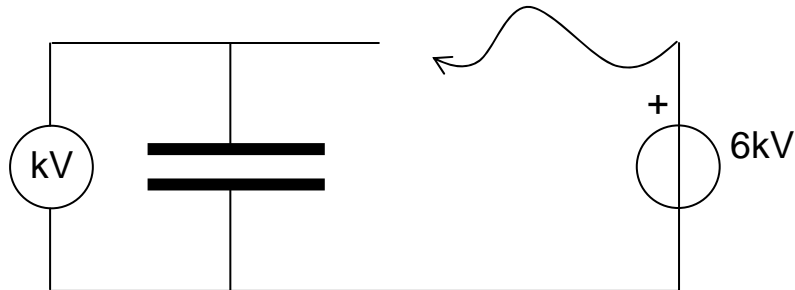

Figure 1
Presentation: The setup of the demonstration is explained to the students. The plates are set at minimum distance, just separated by the Teflon strip (see Figure 1). This strip prevents that, when shifting the moveable capacitor plate you come too close to the fixed plate.
1. The capacitor is charged by just touching the capacitor with the free lead of the 6kV power supply (see Figure 1). After this charging of the capacitor, the voltmeter reads 6kV.